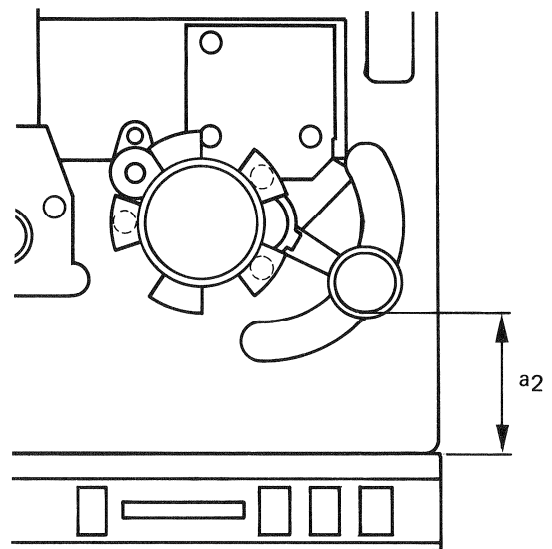

Fig. 5.3.-2
- Left-hand tension sensor: adjust potentiometer R3 (fig. 5.3.-1) until the distance a_1 from the upper edge of the press button rail to the sensing arm is 46 mm (1 13/16").
- Right-hand tension sensor: adjust potentiometer R3 (fig. 5.3.-2) until the distance a_2 from the upper edge of the press button rail to the sensing arm is 50 mm (1 31/32").